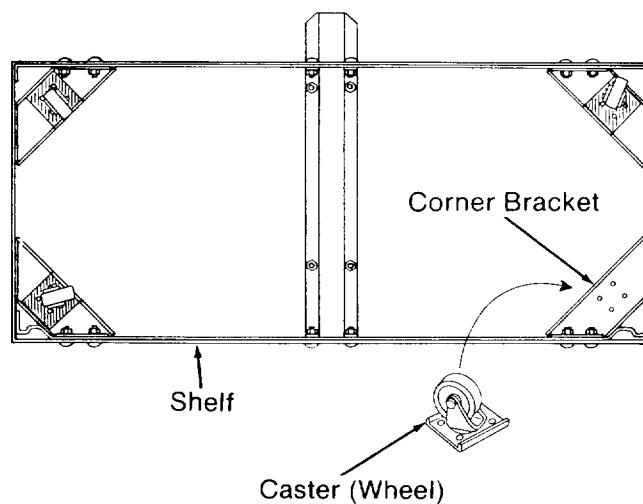

Fig. 21
1. Put the *casters (wheels)* on the *shelf* and *corner brackets*. Since the *shelf* is upside down, the *wheels* will point up. Line up four holes in each corner. (Figure 21)